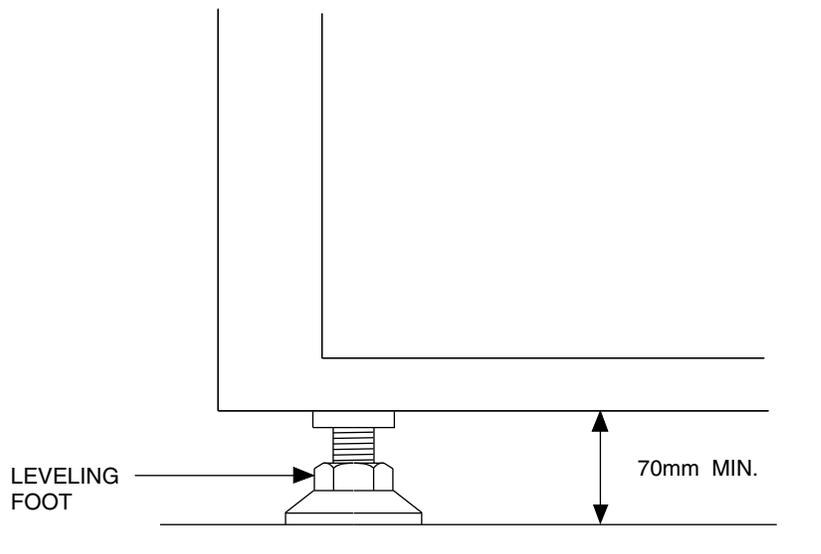

Figure 5-34
1. Once a proper location has been found for the printer, the printer should then be secured and leveled to the floor. The leveling feet at the base of the printer should be adjusted so that the lower surface of the printer frame is 70 mm above the floor surface as shown in Figure 5-34.